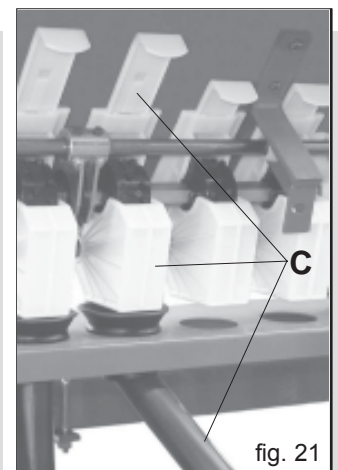

fig. 21
- release the screw (A) of the coulters' attachment;
- hook the springs (B) on the suitable attachments .
- make sure that only the blades of the distributors that have the telescoping tube (Fig. 21, C) are open; all the others must be closed.